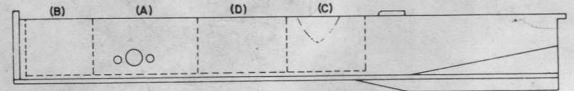

FIG 6 Check note if over six feet tall.
Remove shifting rod. Slide section C back as far as it will go. (fig. 6). Tack weld in place.
Slide section (A) back to meet section (D). (fig. 6). Clutch and accelerator tubes will have to be pulled to the rear.